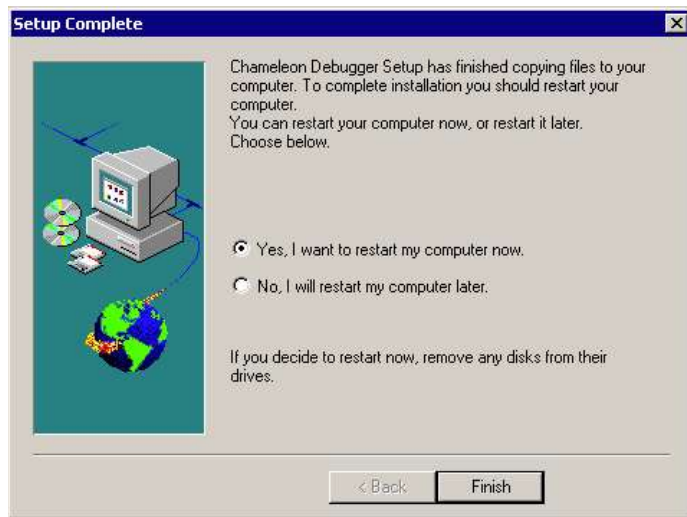

FIGURE 2 Newly installed drivers require a computer restart.
2. If you are running Windows NT 4.0, 2000 or XP, the necessary parallel port driver will be installed, and your system will need to be restarted to complete the driver installation, as shown in Figure 2.